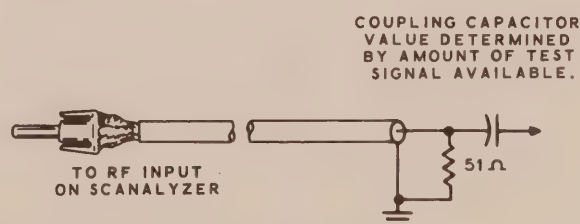

Figure 38
- ( ) Make up a test lead of small 50  $\Omega$  coaxial cable (not provided) with a phono socket installed at one end. See Figure 38. The cable should be long enough to reach from the Scanalyzer to the circuit being tested.
- ( ) Connect a 51  $\Omega$  (green-brown-black) resistor between the center conductor and shield at the other end of the coaxial cable. See Figure 38.
- ( ) If the signal to be tested has a DC component, connect one lead of a blocking capacitor to the center conductor at this same end of the coaxial cable. See Figure 38.